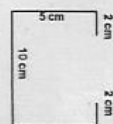

Fig.3
12. (a) Determine the shear flow pattern due to upward vertical shear force 2000 N applied to the thin walled section shown in Fig.3. Thickness of the section is uniform and is equal to 2 mm.